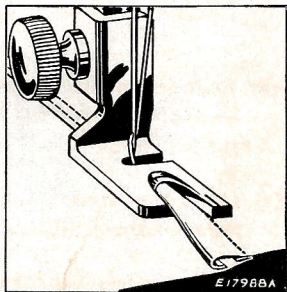

FIG. 41. MAKING A FELLED SEAM
(2) Open the work out flat, wrong side up, and hem the free edge of the seam, stitching it flat to the garment as shown in Fig. 41.